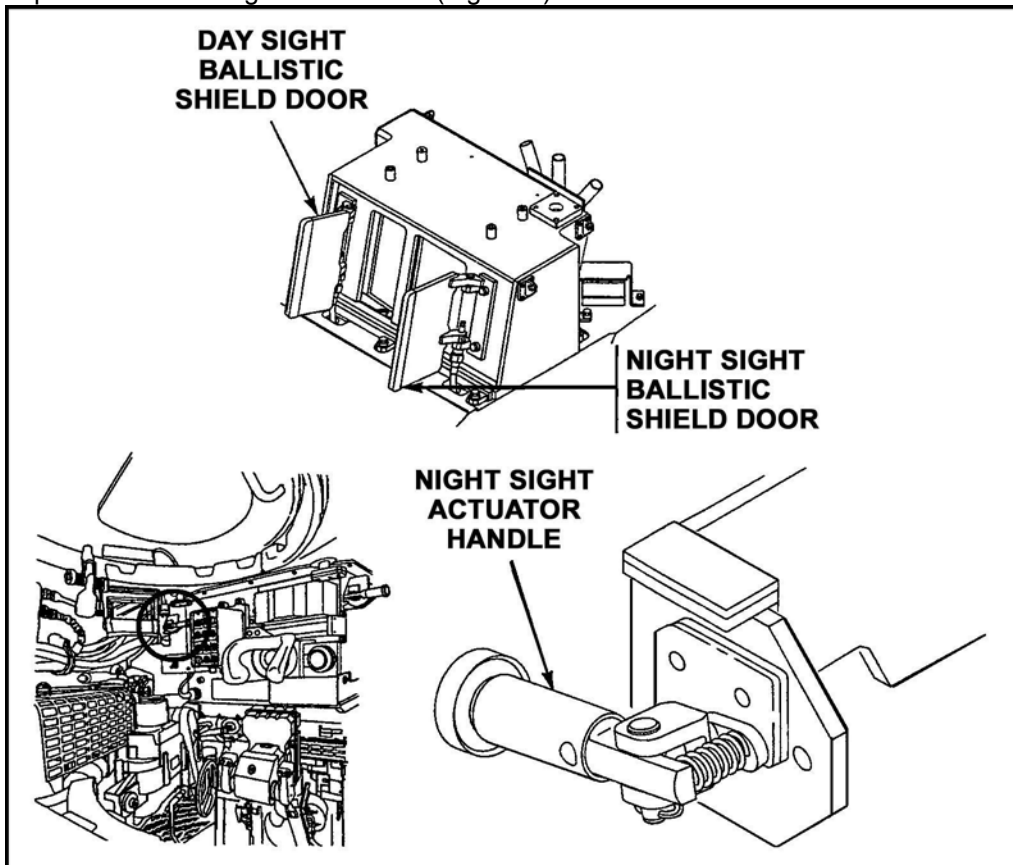

Figure 4. Actuator handle.
- g. Open the ballistic sight cover doors (Figure 4).